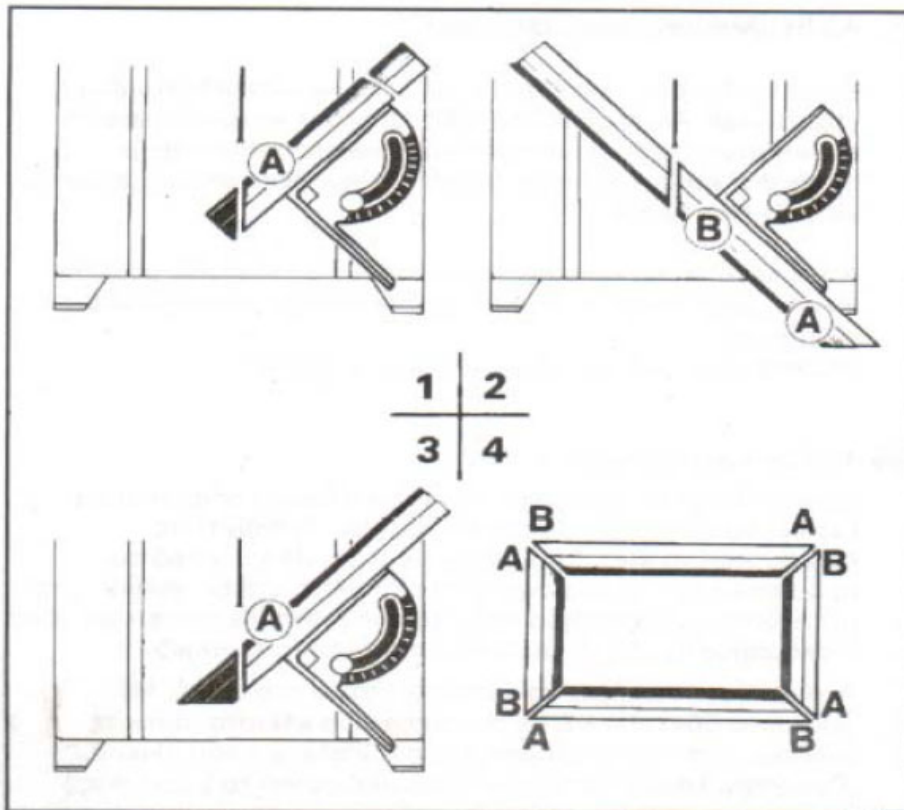

Fig. 21
3. The 90° milled angular limit stop is ideal for precise miter cuts, as shown in the frame cutting example (Fig. 21).